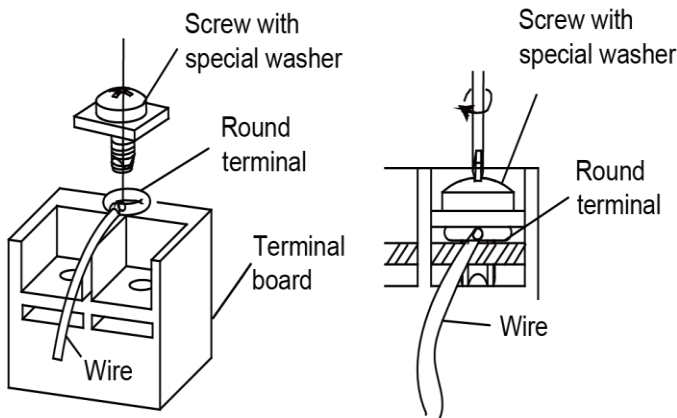

Figure 3-4-2
- 4) Position the round terminal wire, and replace and tighten the terminal screw with a screwdriver. (Figure 3-4-2)